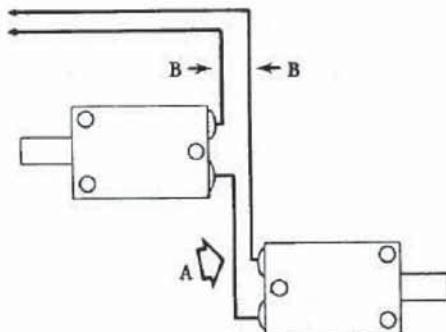

Figure 5-2
Fig. 5-2 is a close-up view of the tamper switches (only) and how they are wired. (The three holes on each switch are for the mounting screws.) Note that a short, 22 gauge jumper wire (A) extends from a screw terminal of one switch to a terminal of the other switch, joining both switches by a series connection. B is a 22 gauge pair, which is brought into the premises and connected to any loop of the protective circuit.